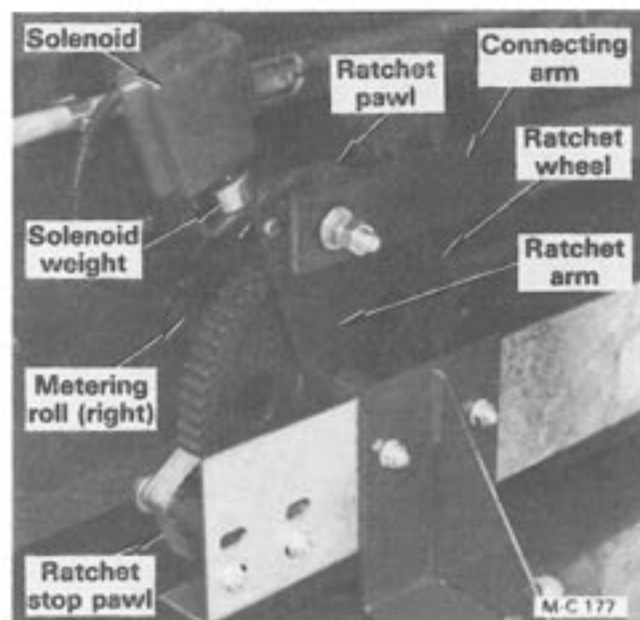

Figure 11
the grain metering roll ratchet solenoid. The solenoid will lift the weight off of the ratchet pawl. The ratchet pawl will engage the ratchet wheel and the grain metering roll will start unloading grain, see Figure 11.
knob just to the point where the grain metering roll ratchet solenoid lifts the weight off of the ratchet pawl, Figure 11. Each moisture control will probably have a slightly different setting, this is normal.
CAUTION: The guards were removed in Figure 11 to provide a clear illustration. Do not operate the dryer without guards in place and secure.
6. The ratchet pawls must engage the same number of teeth on each ratchet wheel so that the metering rolls unload at the same rate. If they do not, move the ratchet stop pawl(s), shown in Figure 11 page 14, closer to the ratchet wheel(s) to prevent ratchet wheel roll back.